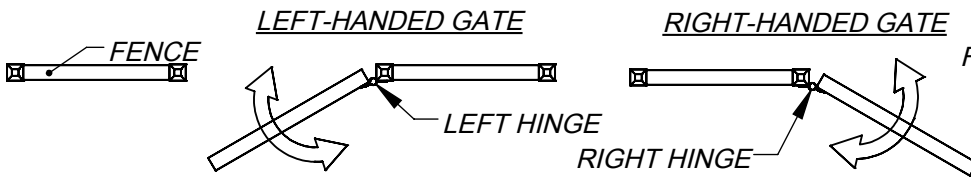
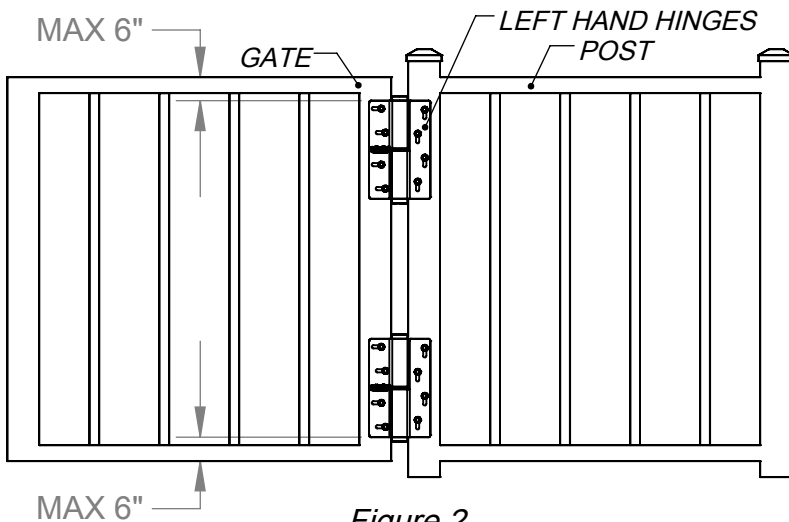

Figure 1 - Top View
Figure 2
1) For gates up to 75 lbs., an Active-Dummy set of hinges is appropriate. For gates up to 125 lbs., an Active-Active set of hinges should be used to provide enough closing force. For Active-Dummy hinge sets, the Dummy must be used as the bottom hinge. If you are on the side of the fence with the hinges facing you (with the gate opening towards you), then the side the gate is on will indicate the handing (Figure 1). For example, if the gate is to the left of the hinges, then left-handed hinges are required. The top of the upper hinge should be mounted within 6" of the top of the upper rail, and the bottom of the lower hinge should be mounted within 6" of the bottom of the lower rail (Figure 2). In applications where additional hinges are used, they should be evenly spaced between the upper and lower hinges.